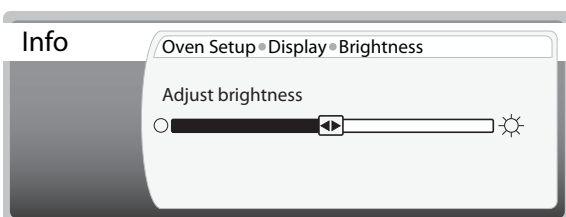

Figure 4.5: Adjust Brightness
7. Adjust the brightness to the desired setting by turning the inner CookWheel knob left or right (Figure 4.5).